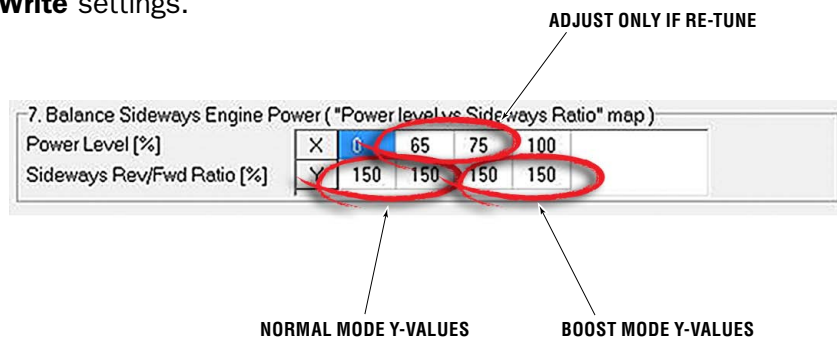

Figure B-17. Sideways REV/FWD Ratio Curve parameters.
If you adjusted the power levels in STEP 8 and are now performing a re-tune, adjust the X-values in the table as follows (see figure B-17):
- a) If the boat moves aft, decrease both *normal mode Y-values* (see figure B-17) by the same amount. If the boat moves forward, increase the values.